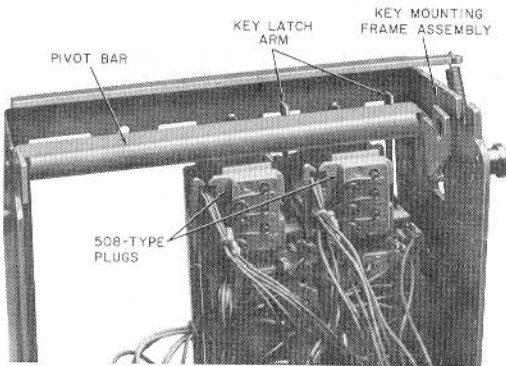

Fig. 25—Rear View of Pivot Bar (Current Production Set Equipped With 635-Type Keys)
(1) Check that key latch arm is properly seated in the pivot bar (Fig. 25 and 26).
(2) Adjustment of the key can be made by loosening the mounting screws and shifting the key toward the front of set so that there is no play between the latch arm and pivot bar when a key is operated.
(3) If malfunction is related to one key module test key for proper operation.